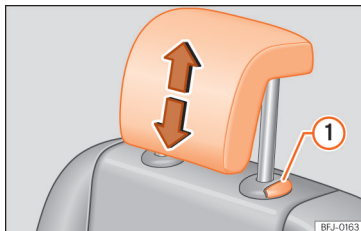

Fig. 110 Removal of the rear headrests: second row of seats.
- Remove the headrest completely while pressing button » Fig. 110 ①.